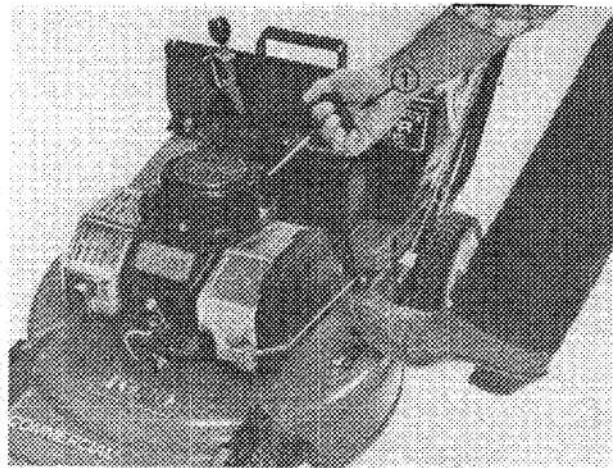

Figure 10
3. Place foot on step at left side of mower housing (Fig. 10) and keep other foot from beneath the housing. Pull fingertip starter handle up gently